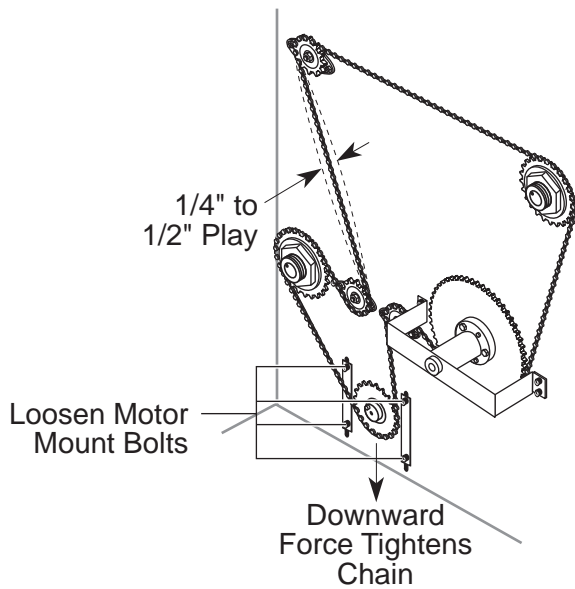

Figure 4-4: Adjusting the Chain Tension
3. Loosen all four motor mount bolts using the $\frac{3}{16}$ " hex wrench as shown in Figure 4-4. The motor should just move freely within the slots.